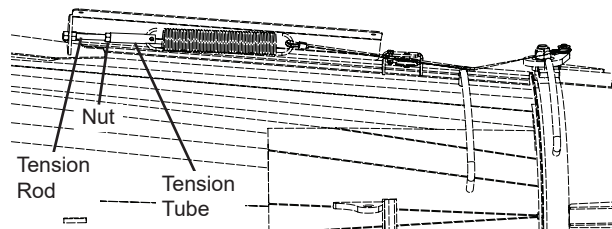

Figure 167
4. Loosen the nuts on the tension rod during the adjustment (Figure 167).
5. Use a pair of vice grips or other suitable tool to hold the tension tube and turn the tension rod clockwise to increase the tension or counterclockwise to reduce the tension (Figure 167).